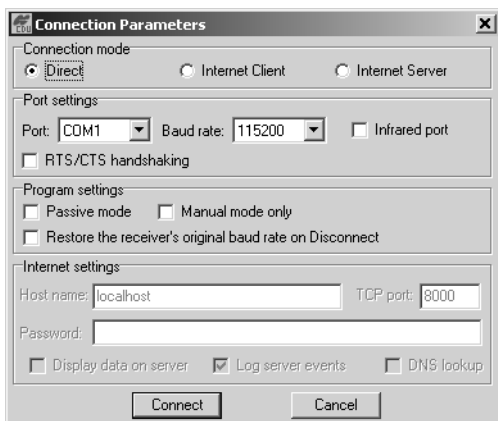

Figure 2-3. Bluetooth and RS232 Connection Parameters
3. On the Connection Parameters dialog box, select the following parameters for Bluetooth or RS232 connections and click **Connect** (Figure 2-3 on page 2-8):